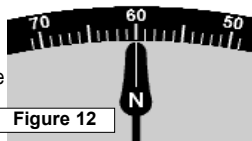

Figure 12
8. Read azimuth where the "N" end of the needle points at graduated circle -- 60°. (Fig 12)